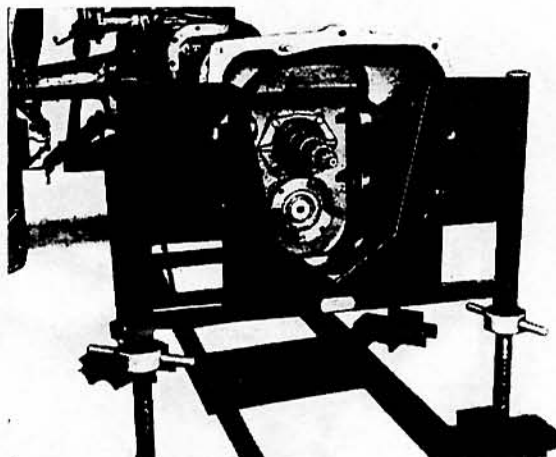

FIG. 8
To Remove Main Drive Shaft Retainer (Dual Clutch Models) (J-3b) (Fig. 8)
3. Remove front P.T.O. cap and setscrews and gasket. Remove snap ring from solid front P.T.O. main drive shaft and using two slave setbolts ($\frac{9}{16}$ " $\times$ 3" A.F.), (See Fig. 8), in tapped holes, remove bearing housing, gasket and bearing. Remove thrust washer, noting that the raised lip faces forward.
8. Remove front P.T.O. cap with setscrews and gasket. Remove snap ring from solid front P.T.O. main drive shaft and using two slave setbolts ($\frac{9}{16}$ " $\times$ 3" A.F.), (See Fig. 8) in tapped holes, remove bearing housing, gasket and bearing. Remove thrust washer, noting that the raised lip faces forward.